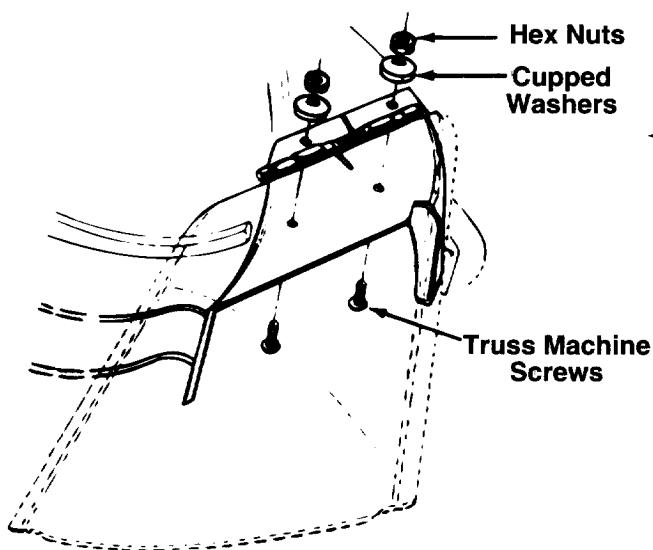

FIGURE 3.
2. Place the chute deflector in position as shown in figure 3. Secure with hardware just removed.